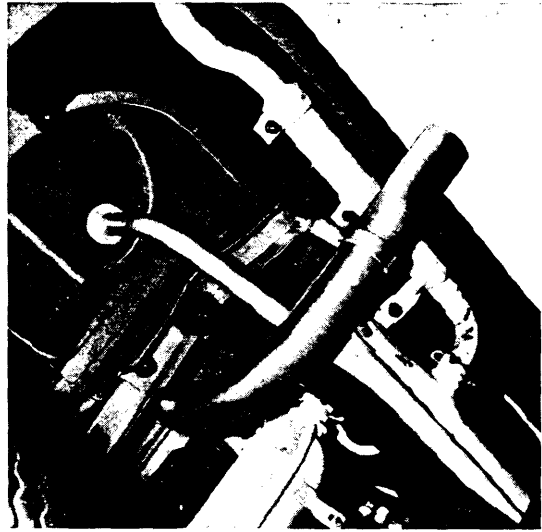

Fig. 17
- 12 - Secure intake and exhaust pipes. Slide exhaust elbow on to pipe and tighten clamp screw. Drill a 6.5 mm hole in the left bumper bracket level with the exhaust pipe elbow support and secure support with a hexagon head M 6×15 screw, nut and spring washer (Fig. 17).